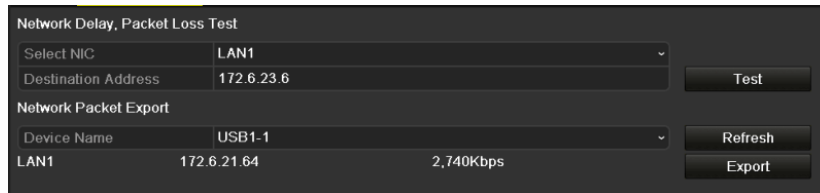

Figure 11-29 Export Network Packet
Step 3 Select the backup device from the dropdown list of Device Name, as shown in Figure 11-29.